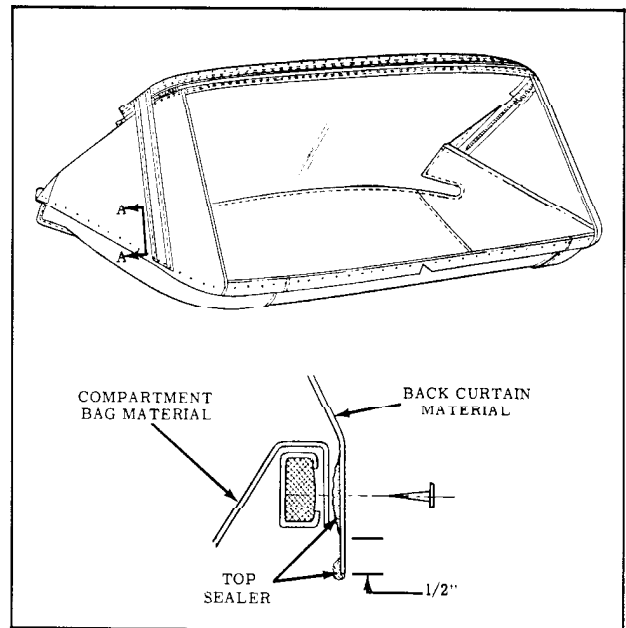

Fig. 17-47 Back Curtain Sealing
- tacked to rear and rear quarter trim stick. (View "A-A", Fig. 17-47)
4. Apply bead of convertible top sealer along lower selvage edge of back curtain material. (Fig. 17-47)
NOTE: Notch in back curtain vinyl at lower edge indicates centerline of back curtain assembly. (Fig. 17-47) In addition, back curtain lower edge should extend 1/2" below lower edge of trim sticks. (Fig. 17-47)
7. Tack curtain to rear and rear quarter trim sticks. Turn forward edge of material rearward to form a water barrier. (Fig. 17-47)
25. After desired fit of top material has been obtained, remove trim sticks with attached top material from top compartment well. Back curtain should extend 1/2" below trim sticks. (Fig. 17-47)